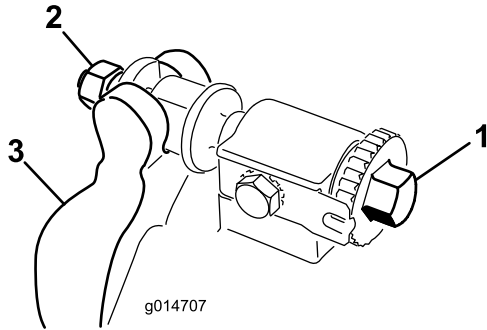

Figure 17
1. Turn the bedbar adjuster screw, counterclockwise, to back the bedknife away from reel (Figure 17).